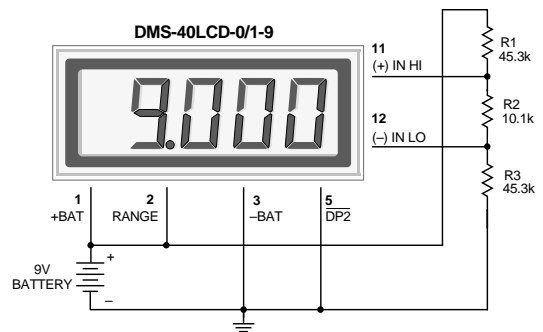

Figure 8. Power Supply Monitor (9V-Powered Models)
**6. Power Supply Monitoring:** A popular application for DATEL's low-power LCD meters is monitoring the supply voltage in battery-operated portable equipment. Figure 8 demonstrates how a 9V-powered DMS-40LCD can be used to monitor its own supply. The meter used is the DMS-40LCD-0/1-9 configured for its ±2V input range (pin 2 connected to pin 1). A three-resistor voltage divider is used to attenuate the battery voltage and also to satisfy the requirement that the input voltages applied to pins 12 and 11 be at least 1.5 Volts above and below the battery voltage applied to pins 1 (+BATTERY) and 3 (-BATTERY). The divider should be designed so that 1/10th the battery voltage falls across the inputs to the meter.